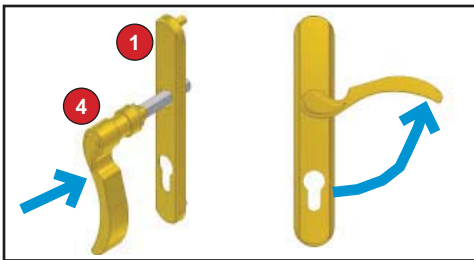

Figure 4
2. Insert handle into outside trim plate (with Andersen logo) with lever pointing down and rotate the handle to secure it. (Figure 4)